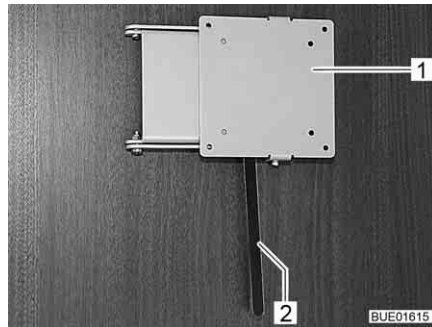

Fig. 90 Holder with release lever
- Push the release lever (Fig. 90,2) to the side and turn the holder (Fig. 90,1) with the flat screen to the desired position.
- Turn flat screen back until the holder (Fig. 90,1) engages in the lock.